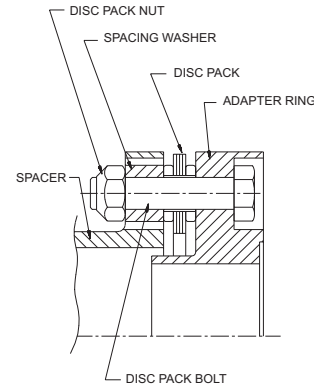

Figure 9. Bolt Disc Pack to Adapter Ring.
- 6.11 Make sure that the spacer is properly indexed for the large clearance holes to receive the bolt ends. Place the spacing washer and disc pack nut on the bolt. Repeat for the other bolts (see Figure 9).